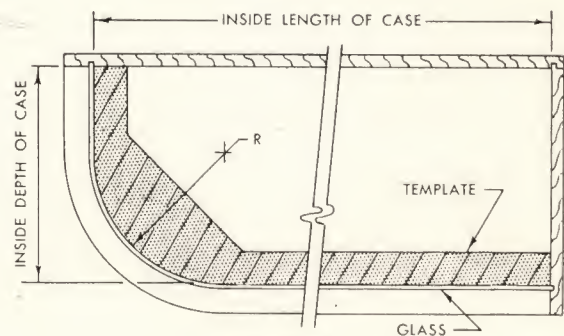

Fig. 2
A. Where possible, furnish a full size hardboard or plywood template to the inside of the front glass. See Fig. 2. The point at which measurements are taken must be shown. B. Furnish inside length and inside depth. C. On wood or metal frame case, furnish full-size cross-section drawing of front rail.